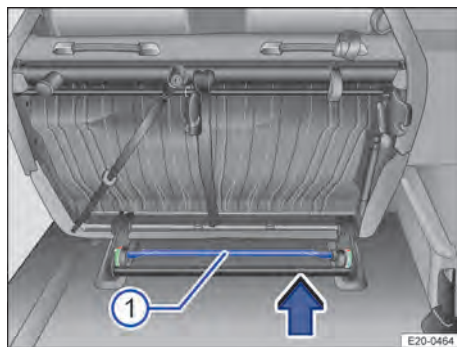
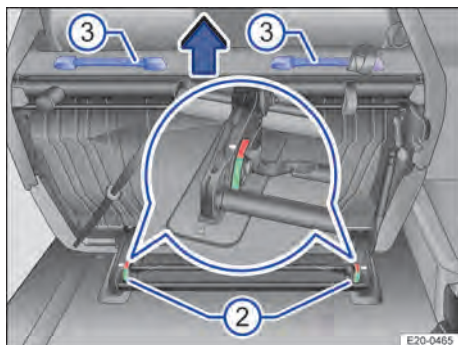

Fig. 68 Second row of seats: Removing the two-seat bench.
Fig. 69 Second row of seats: Removing the two-seat bench.
3. Pull the rods → Fig. 68① in the direction of the arrow until both locking marks → Fig. 69② are in the red area.